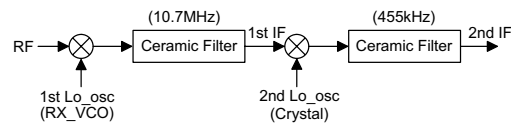

Figure 4 The illustration of mixers
A Mixer is a non linear device whose purpose is to convert radio frequencies (RF) to intermediate frequency (IF) (RF-to-IF frequency translation). In the frequency conversion process, RF signals are combined with the local oscillator frequency in a non linear device. The output of the mixer contains an infinite number of harmonic and cross-product frequencies which include the sum and the difference between the desired RF carrier and the local oscillator frequencies. The IF band-pass filter are tuned to the different frequencies. Therefore, the IF signal is filtered out by the BPF. In the HT9015 the double conversion method (Figure 4) is applied to produce the lower IF.